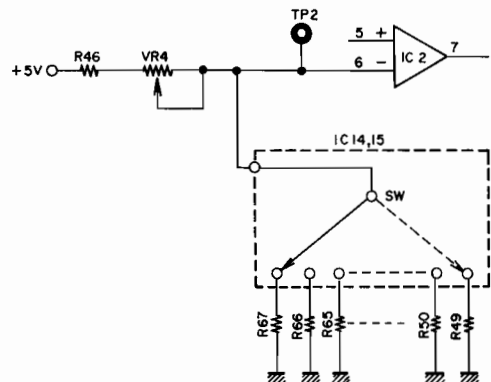

Fig. 26
- 3) Supplied to ⑥ of IC2 is the step-like reference voltage which is generated by IC14, IC15, Microcomputer, TR11 and resistors connected to them. Fig. 26 illustrates the generation of the step-like reference voltage. Moving the switch (SW) in the direction shown causes various levels of voltage to be generated at TP2 as +5V is divided by R46, VR4 and R67, R66 . . . or R49. The actual switching between IC14 and IC15 is effected by controlling TR11, IC14 and IC15 with signals delivered from the microcomputer. The relationship between signals from the microcomputer and the action of IC's 14 and 15 is shown below: